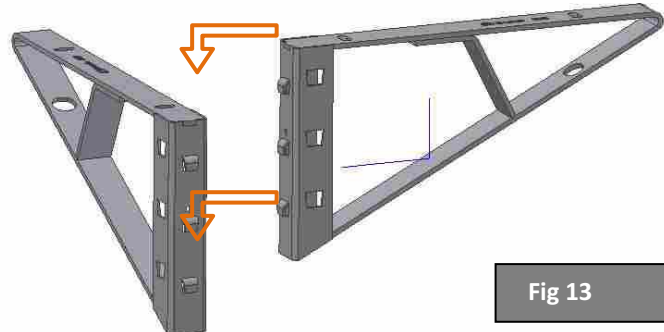

Fig 13
- A) Insert the hooks of the **brackets** (1) in the trapezoids of the **bracket** (2) (Fig.13). Use a nylon mallet.